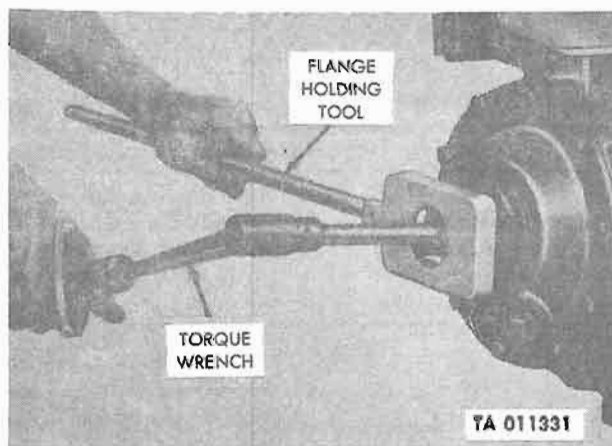

Figure 12-78. Torquing Side Flange Bolts.
g. Using flange holding tool, torque side flange retaining bolts to 40-45 lb-ft (fig. 12-78).
Page 12-31. Figure 12-78 is superseded as shown: